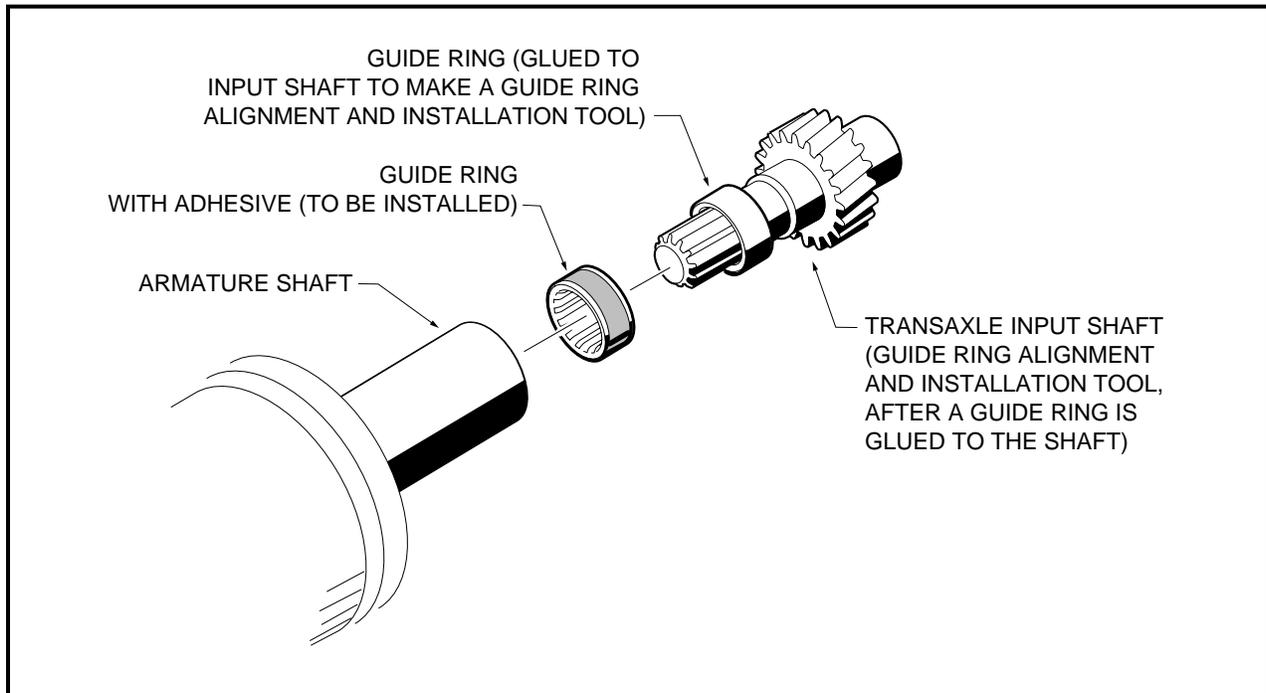

Figure 15-14 Guide Ring
1. Insert the installation and alignment tool (**Figure 15-14, Page 15-11**) into the output end of the motor shaft and into the guide ring, stopping the tool before it reaches the armature splines. Turn the alignment tool in the shaft. If guide ring moves and armature does not move, guide ring must be replaced.
2. To fabricate a guide ring installation tool, glue a guide ring (Club Car Part No. 101789101) onto an input shaft (Club Car Part No. 1013764) and allow the glue to set (**Figure 15-14, Page 15-11**).
1. Coat the outside surface of the new guide ring with a thin film of guide ring adhesive (Club Car Part No. 101813202), then slide the guide ring onto the guide ring installation tool (**Figure 15-14, Page 15-11**) next to the guide ring already in place. Mating the splines of the input shaft with the splines in the armature shaft, insert the input shaft into the armature shaft until the new guide ring is seated against the end of the armature splines. Remove the guide ring installation tool from the armature. Make sure the guide ring remains seated.